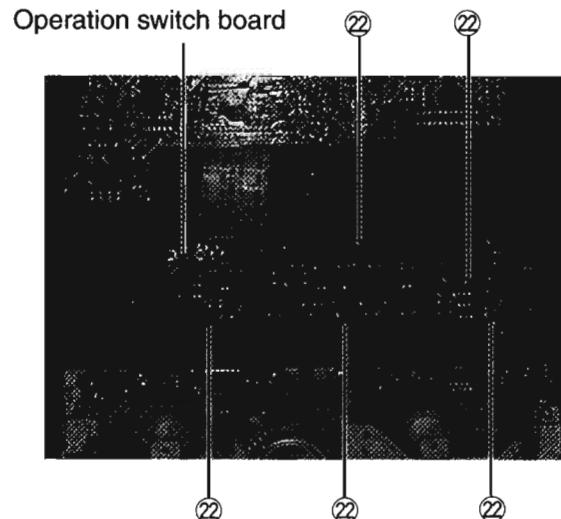

Fig. 18
(See Figs 18)**
7. Remove the five screws ⑯ fastening the operation switch board..(See Fig.18)